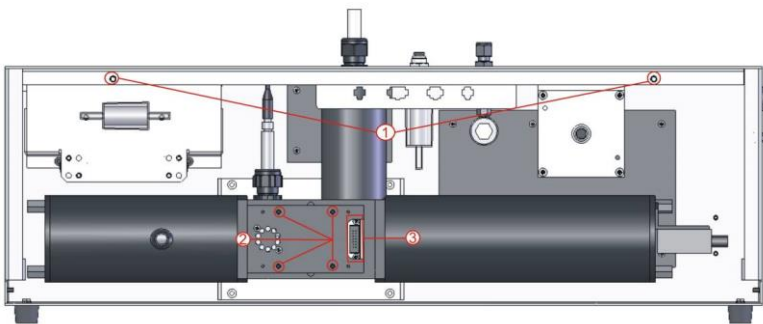

Figure 41 – Aurora internal components
2. Remove DFU from the quick fit fitting and the clear tubing (Figure 41).
2. Remove DFU from the clear tubing (Figure 41).